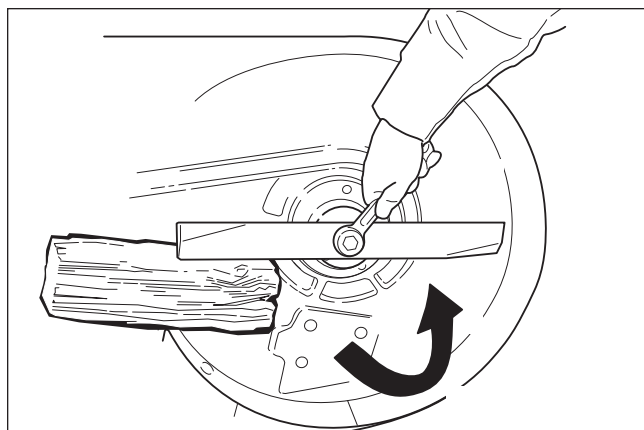

Figure 25. Loosening the Mower Blade for Removal
2. To remove the mower blade, use a 15/16" wrench to remove the mower blade mounting bolt (**Figure 25**).